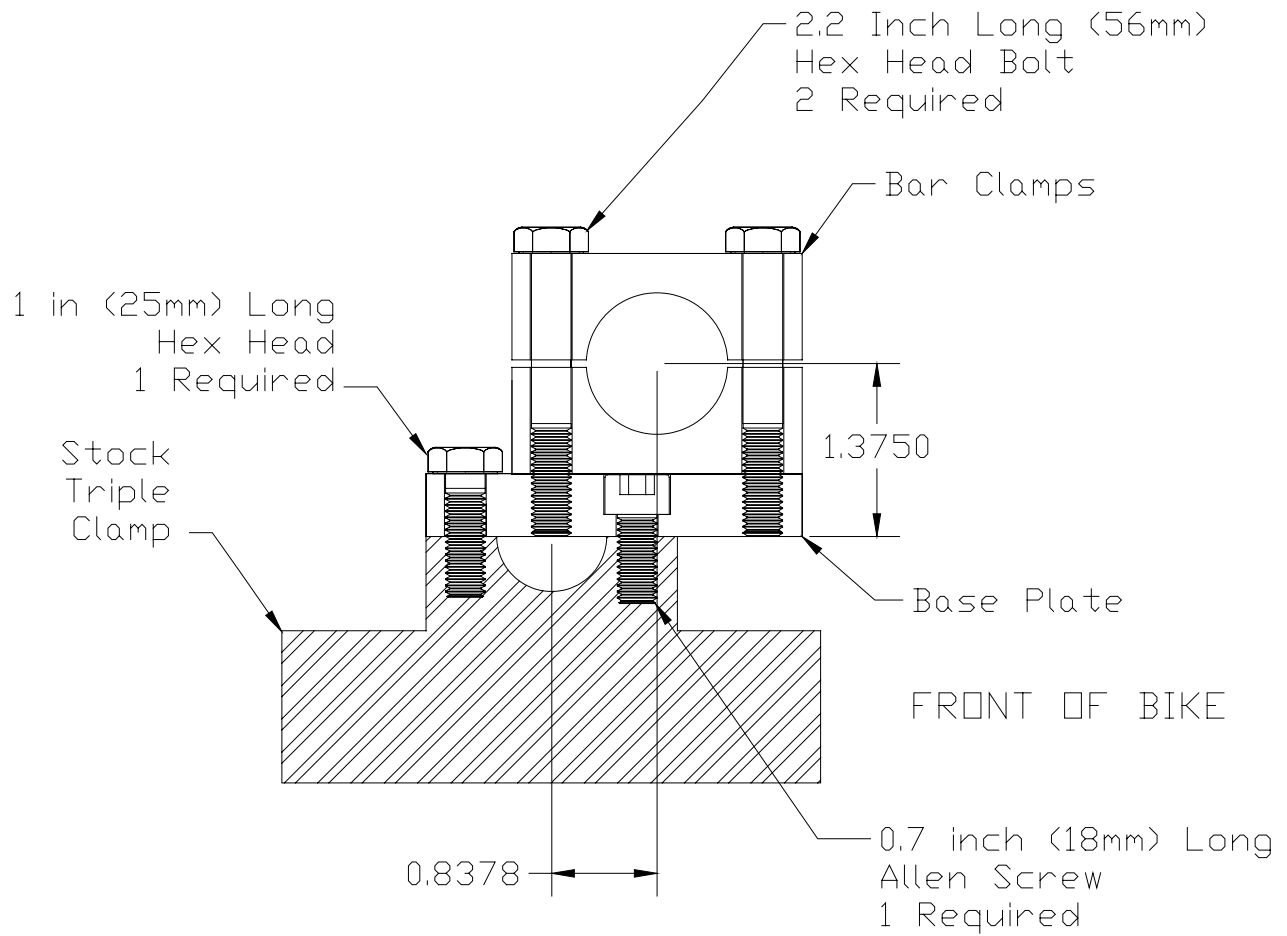

Figure 1 Cross-section of bar risers showing installed configuration.
1. Orient the base plate as shown in the Figure 1 below.
2. Insert the Allen screw into the counter bored hole in the base plate and the 1 inch (25mm) long hex head screw into the rear of the base plate as shown in Figure 1.
5. Now place the top clamp on the topside of the bar and insert the two 2.2 inch (56mm) long hex head bolts as shown in the Figure 1. Center the bar between the left and right clamp.